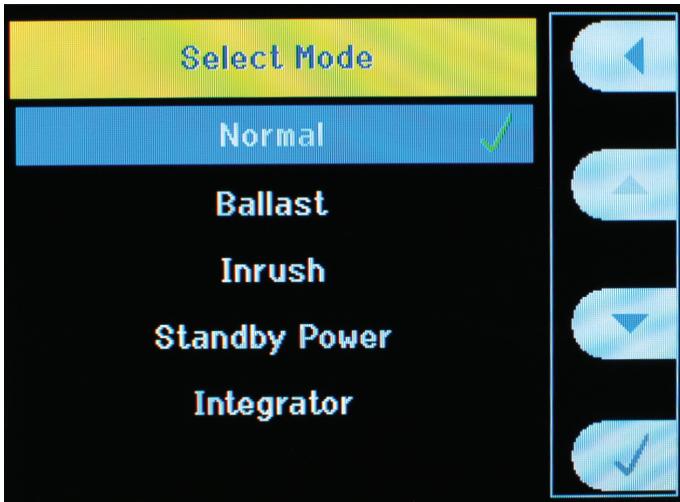

Figure 8. Select Mode Window.
- Press menu → Modes → Select Mode → check mark Normal as shown in Figure 8.